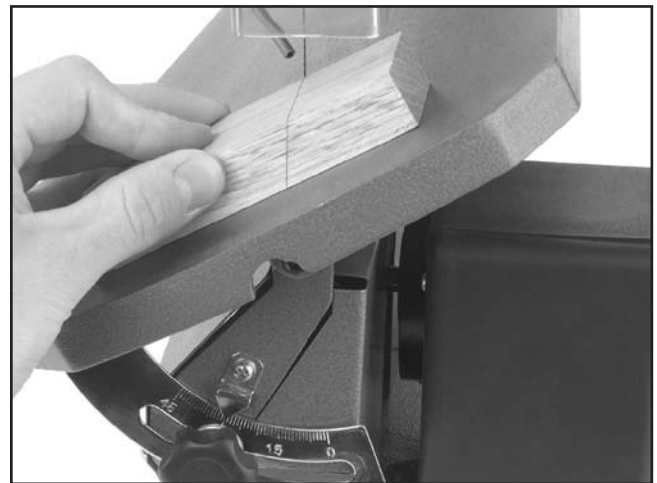

Figure 24. Example of making a bevel cut.
3. Using the same principles as in the previous sections, feed the work slowly and evenly into the blade, remembering not to force the workpiece (see **Figure 24**).